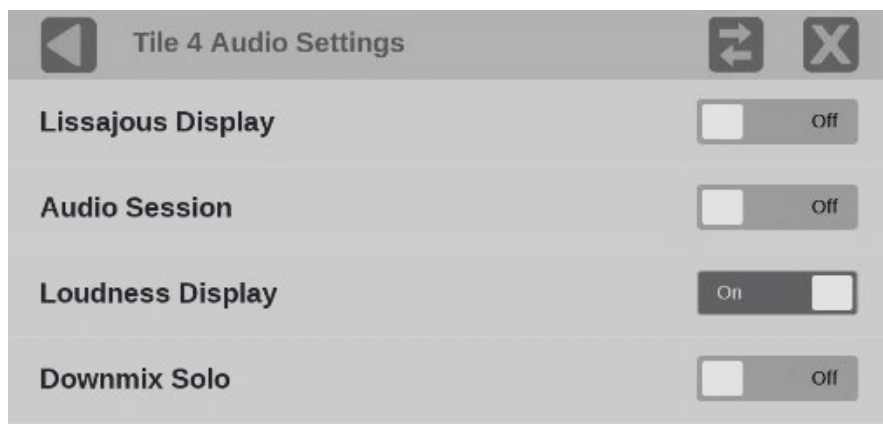

Figure 53: Audio Settings with the Loudness Display turned on
3. Set Loudness Display to **On**. (See Figure 53.)